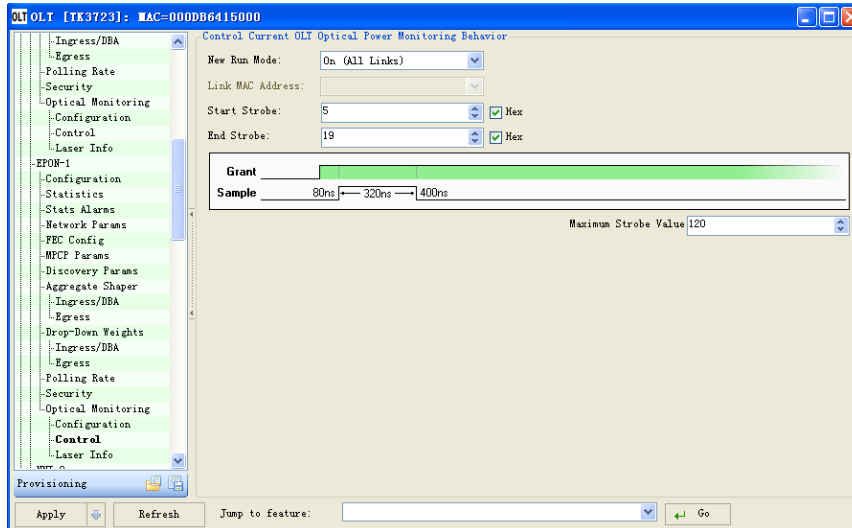

Figure 8-20 Operation Window
1. In the Ports part of OLT for the GUI, select Optical Monitoring and click Control to display the operation window shown in the Figure 8-20.